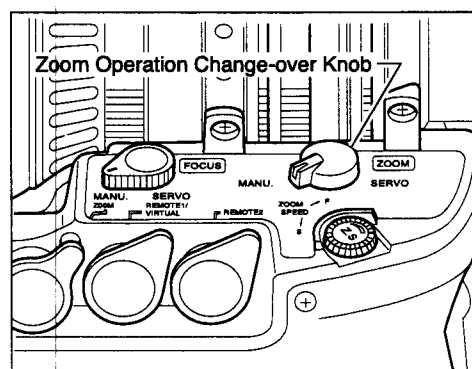

Fig.2-1
1. Set the zoom operation change-over knob at the bottom of the drive unit to the MANU. position. (See Fig. 2-1)